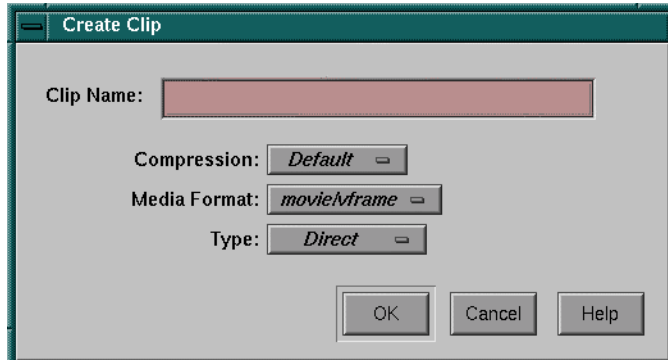

Figure A-4 Create Clip Window
1. Click the **Create** button in the Media Control Panel. The **Create Clip** window, shown in Figure A-4, appears.